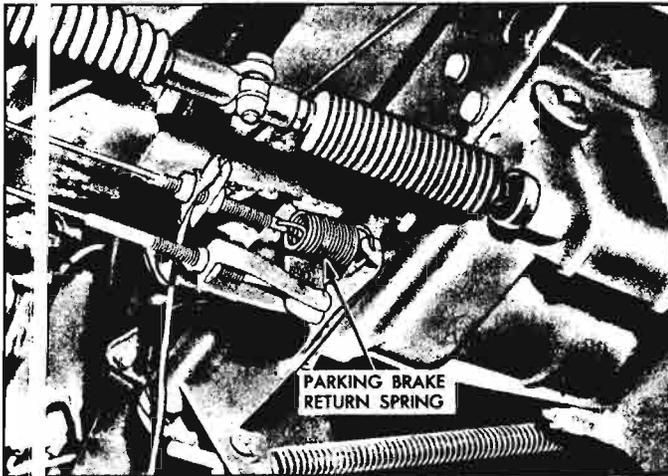

Fig. 4-25—Parking Brake Return Spring
- 3 Disconnect parking brake return spring at rear cross member (fig. 4-25).